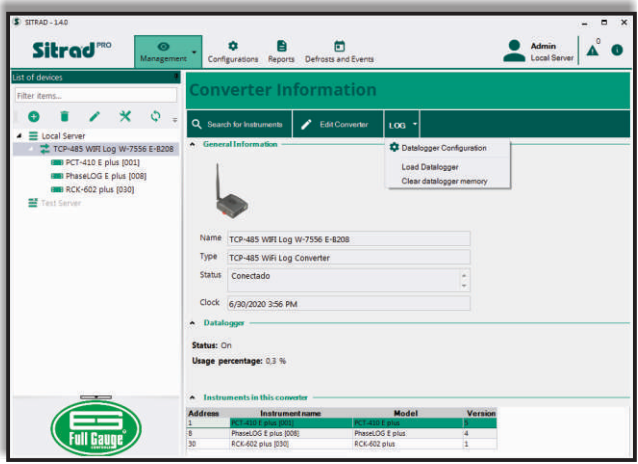
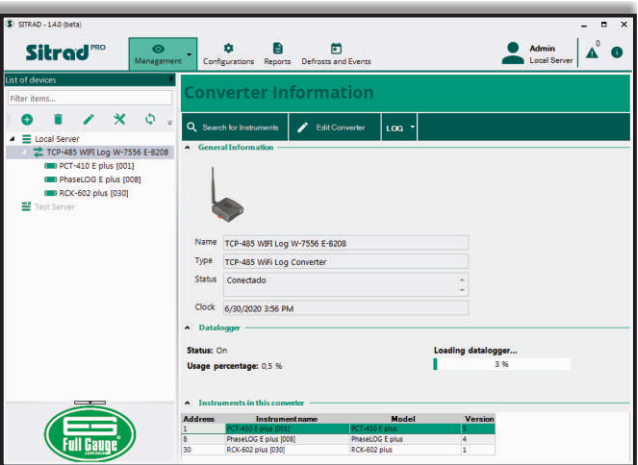
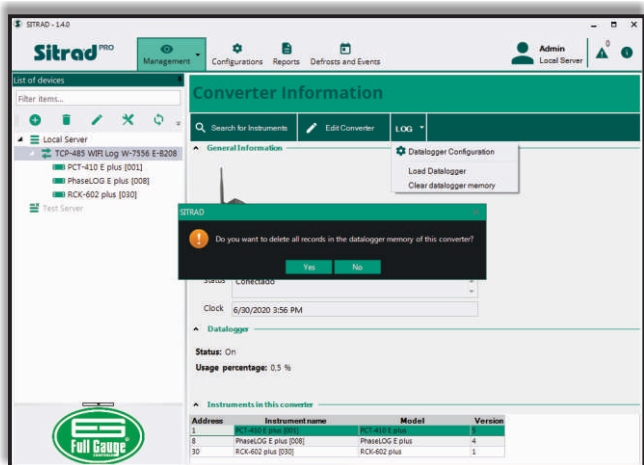

Figure 31
Figure 33
Figure 34
Step 1: With the converter selected, select the **LOG** → **Configure Datalogger** menu on the **Converter Information** tab (Figure 31).
To load the converter Datalogger, select the **LOG** → **Load Datalogger** menu on the **Converter Information** tab (Figure 31). In the **Datalogger** section, a progress bar indicates the process and the percentage elapsed in loading the datalogger (see Figure 33).
To delete the Datalogger data from the converter, select the LOG ➔ Clear Datalogger memory menu on the Converter Information tab (Figure 31). A window will be displayed confirming the operation (Figure 34). Select Yes and all logs will be deleted from the converter's memory.